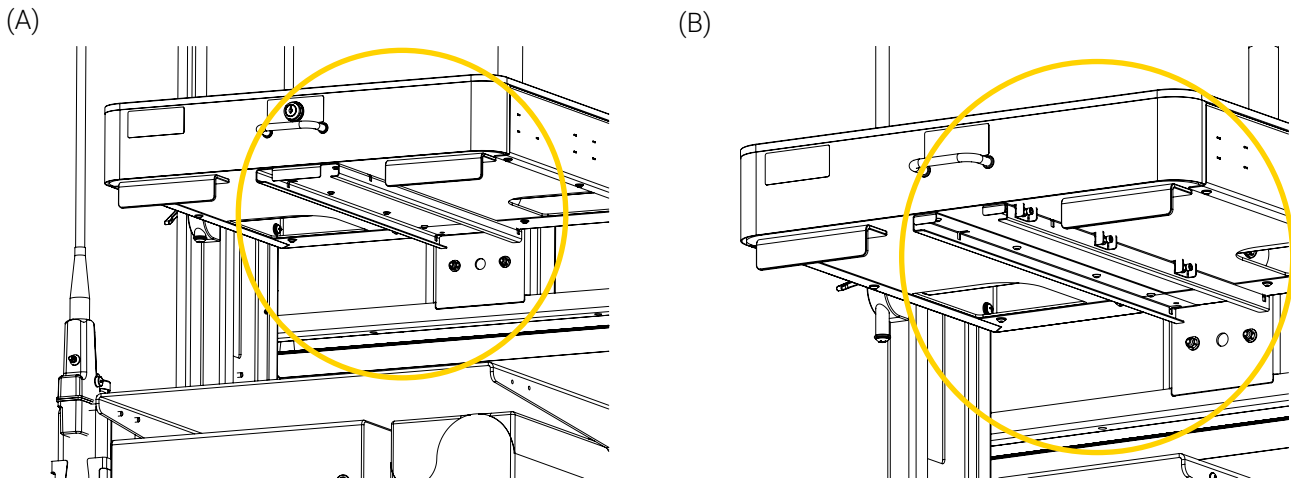

Figure 4: Sliding mechanisms of the keyboard tray
5. Locate the under desk keyboard tray sliding mechanism located under the top shelf. Your configuration could have a 1-part (Figure 4 A) or a 2-part sliding mechanism (Figure 4 B). Follow the subsequent instructions that apply to your specific configuration.